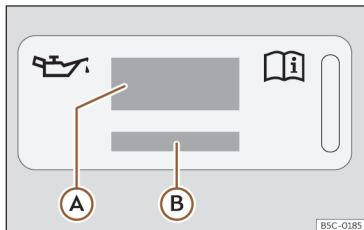
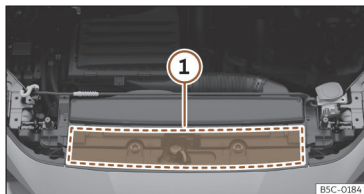

Fig. 222 In the engine compartment: engine oil label
Fig. 223 In the engine compartment: area where the engine oil label is located
Key to the >>> **Fig. 222:**
If the engine oil has to be topped up, use one of the oils shown on the label >>> **Fig. 222**. The label with the prescribed standard is located at the front of the engine compartment >>> **Fig. 223** **1**. If you use the recommended engine oil, you can top up the oil as often as necessary.
- If the label showing the engine oil specifications is missing >>> Fig. 222, please contact a specialist workshop.